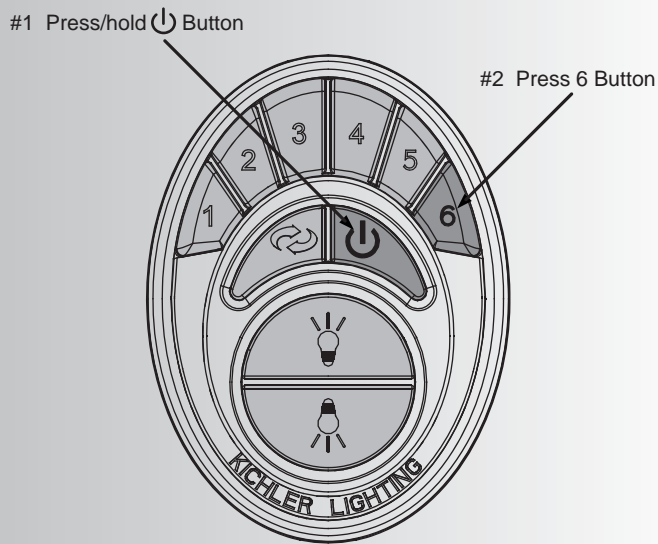

Fig. 21
4. Turn the power on, press and hold the [Power Button] until the ceiling fan light blinks twice (Figure 21)
6. After the ceiling fan light blinks twice, press and release the High Speed (6) Button. Let the ceiling fan run for a minimum of 90 seconds (1 ½ minutes). The control system will do another self check, initialize all operational functions and complete the programming process (Figure 21).